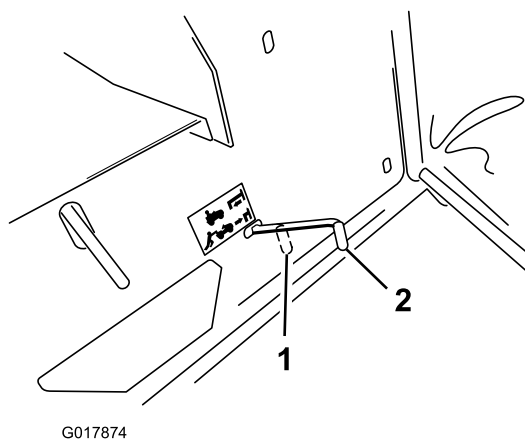

Figure 12
Note: This disengages the drive system and allows the wheels to turn freely (Figure 12).
2. Push the drive control into the Operate position (Figure 12) to engage the drive system.